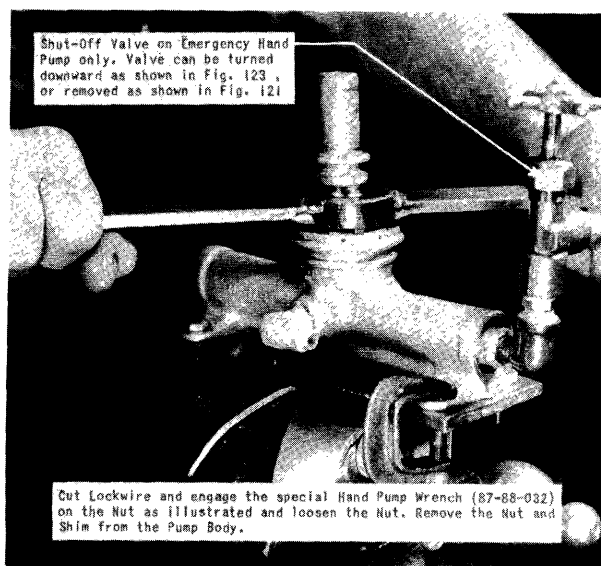

Figure 122 - Removing Nut from Pump Body
(4) Cut the lock wires on the pump nut and release the nut from the pump body by the special hand pump wrench (87-88-032) carried in the airplane tool kit. (See figure 122.) Remove the shim under the nut flange.